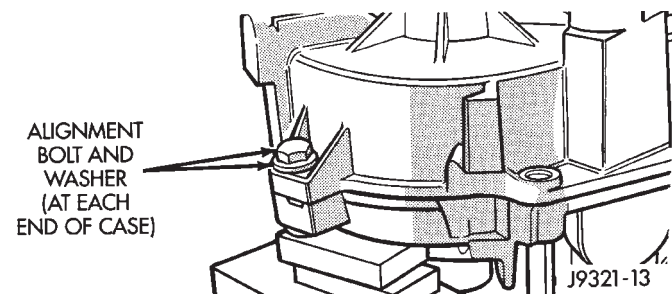

Fig. 59 Alignment Bolt Location
(35) Install case attaching bolts. Alignment bolts at each end of case are only ones requiring washers (Fig. 59).
(36) Tighten case bolts to 27-34 N·m (20-25 ft. lbs.) torque.